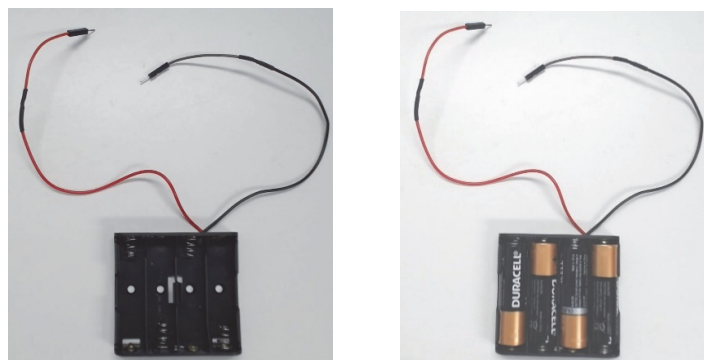

Fig. 6
- 5.2.2. You would use two 4xAA battery compartment as shown in Fig 6, to provide supply voltage of positive DC 6 Volt (+6V), and supply voltage of negative DC 6 Volt (-6V).